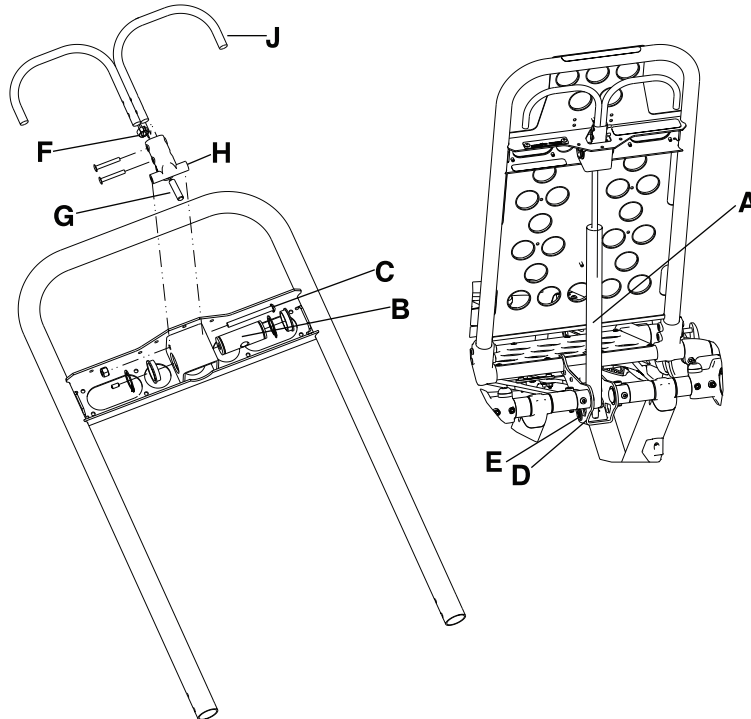

Figure 7: Backrest
1. For easier access, move the backrest to 73 degrees (Figure 7 on page 42).
- a. Make sure that the cylinder (A) is threaded into the yoke (B) so that no threads are showing on the shaft of the cylinder.
- b. If threads are showing, use a 3/32" hex wrench to remove the set screw (C) in the center of the yoke.
- d. Thread the cylinder shaft (A) into the yoke (B) until no threads are showing on the shaft of the cylinder.
- f. Using **Loctite**®, replace the set screw (C).
2. Using a 1/2" combination wrench, loosen the hex nut (F) on the backrest pivot (H) while holding the set screw (G) fixed in the pivot. (Figure 7 on page 42).
3. Using a 5/32" hex wrench, turn the set screw (G) until there is no play between the backrest release handle (J) and the pneumatic cylinder release button. (Figure 7 on page 42).
5. Lower the backrest to a 5-10 degree angle and release the handle. Apply approximately 50 lb of downward force to the end of the backrest. If the backrest drifts down, turn the set screw (G) counterclockwise. (Figure 7 on page 42). Repeat until the backrest does not drift downward.
- Using the 1/2" combination wrench, tighten the hex nut (F) while holding the set screw fixed in the pivot. (Figure 7 on page 42).